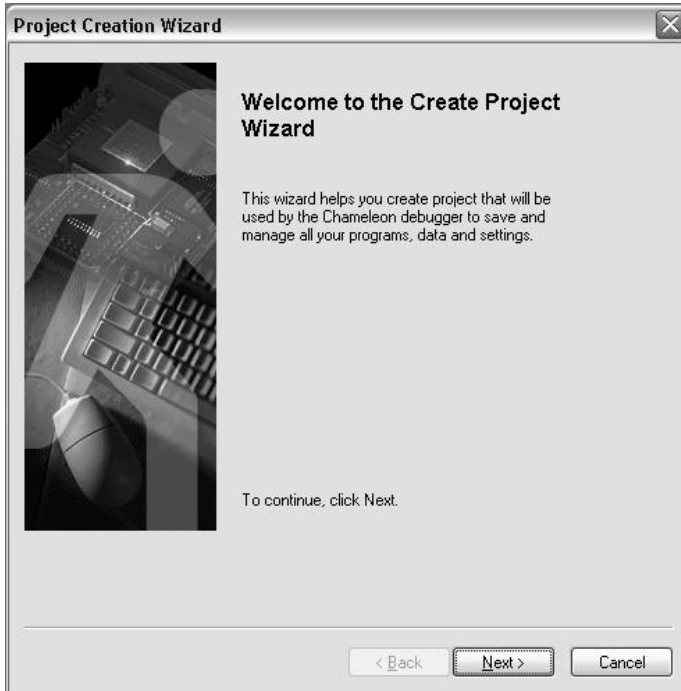

FIGURE 3 Create Project Wizard guides you through the project creation process.
6. The Create Project Wizard appears (Figure 3). Click Next.